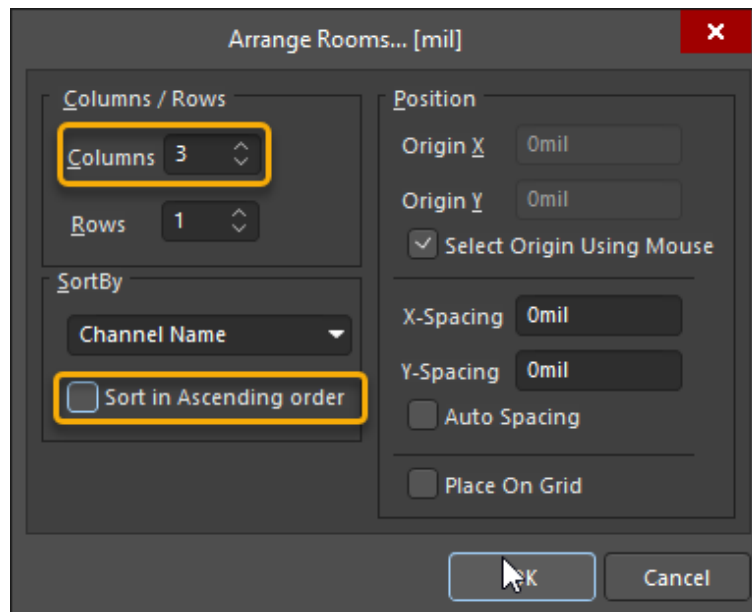

Figure 9. Arrange room dialog
- Set the columns to 3, as shown in Figure 9.